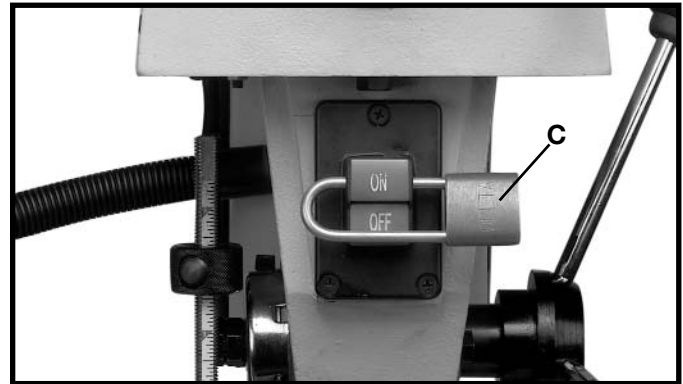

Fig. 18
**IMPORTANT:** When the machine is not in use, the switch should be locked in the OFF position using a padlock (C) Fig. 18, with a 3/16" diameter shackle to prevent unauthorized use.